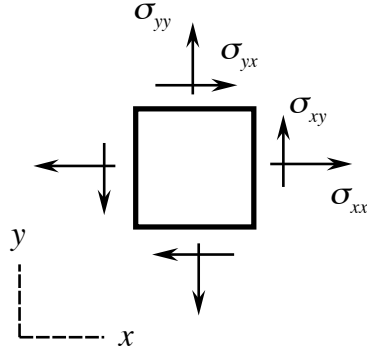

Figure 1: Two-dimensional stress state
- (a) Find the eigenvalues and eigenvectors of each matrix in (2).
- (b) Find the modal matrix \mathbf{M} and diagonal each matrix (2) through similarity transformation. Which matrix in (2) will lead to the Jordan form?
3. In mechanics of materials, the stress state at a point (Fig. 1) can be described through a square matrix
- (b) For symmetric matrices, all eigenvalues and eigenvectors are real. What is the physical meaning for the case of two-dimensional stress state in Fig. 1.